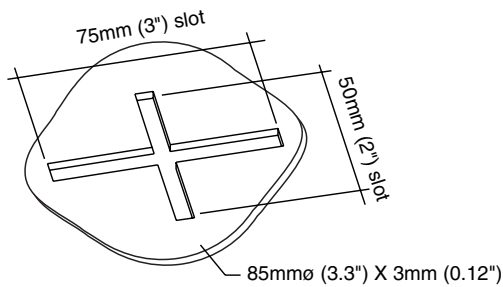

Figure 3 Insulation Support
**Insulation Support:** The Insulation Support (Figure 3) is manufactured from polyethylene. It is pressed by hand over the outboard end of the Flat-Plate tightly against the cavity insulation to prevent the insulation from separating from the structural backing/air barrier/sheathing membrane. The friction fit between the Insulation Support and the Flat-Plate restrains the insulation during construction which is commonly installed in advance of the exterior masonry veneer. Subsequent installation of the V-Tie™ sandwiches the Insulation Support between the insulation and the V-Tie™, thereby locking the Insulation Support in-place and ensuring a reliable and permanent insulation support system.